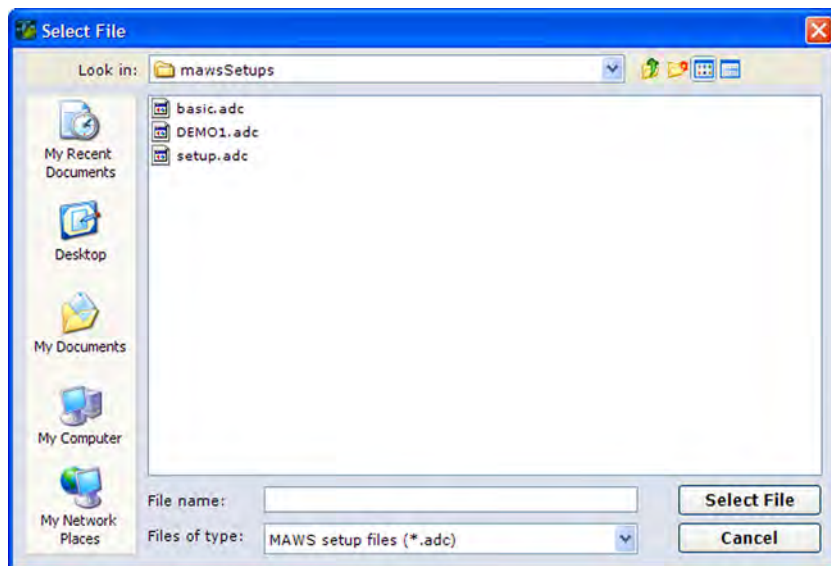

Figure 41 Selecting an Upload Configuration File
2. The **Select File** window is displayed as shown in Figure 41 on page 81. Select the appropriate setup file and click **Select File**. Note that the default folder for uploading setup files is defined in the AWS Client **Options** window.